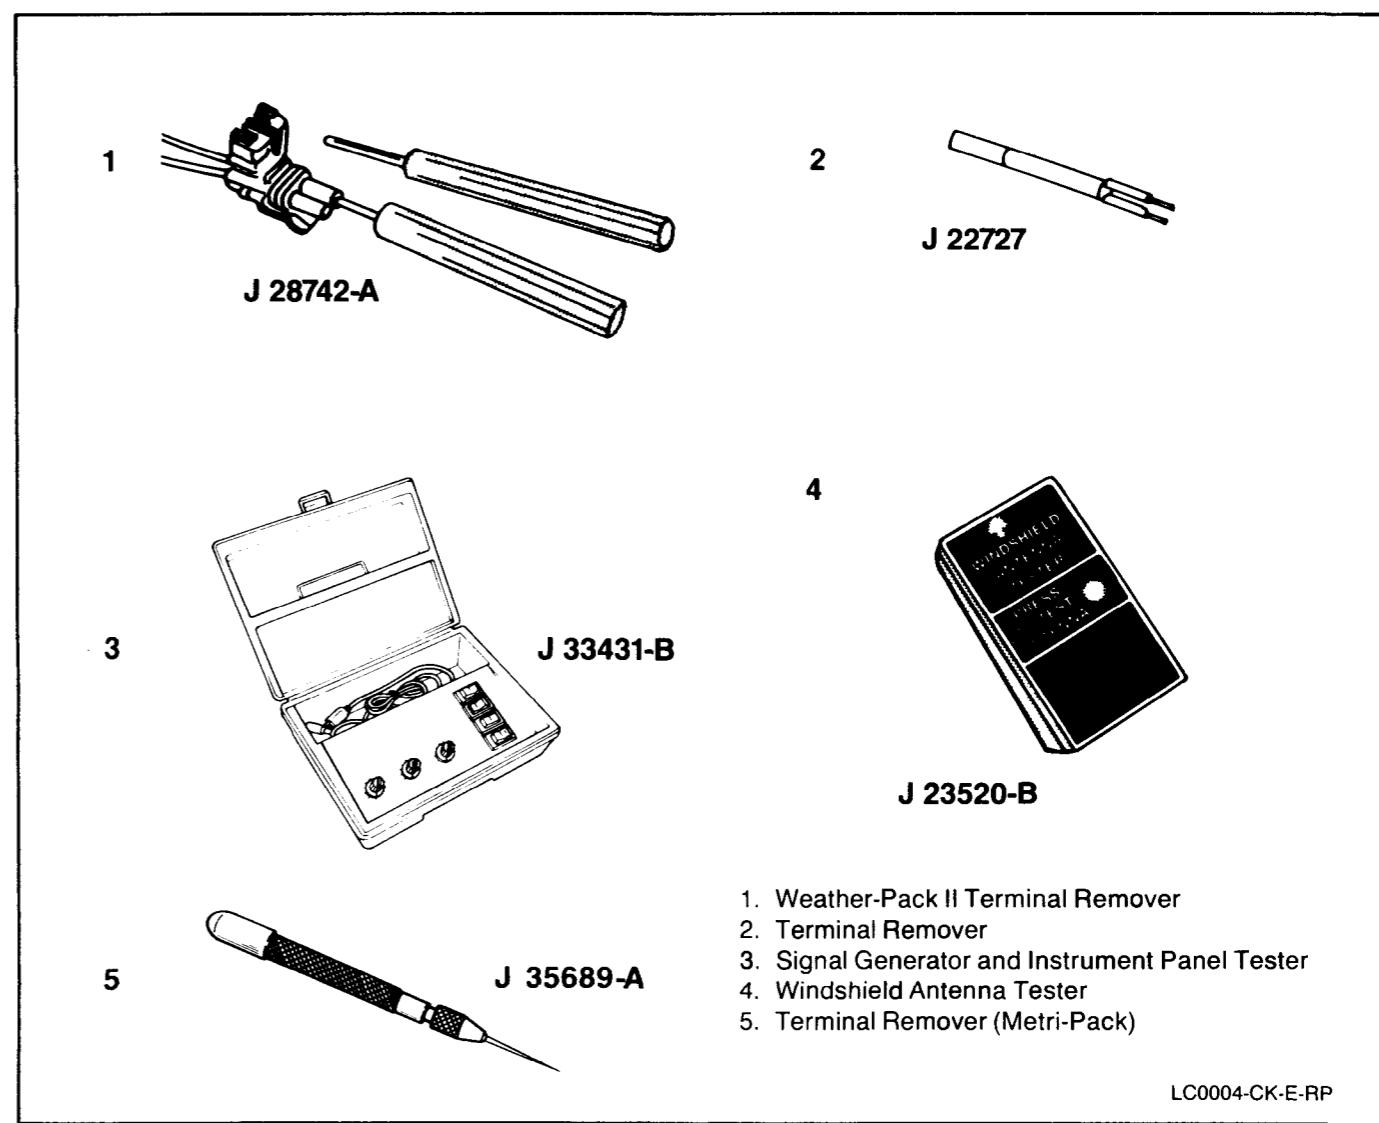

Figure 16—Weather-Pack and Metri-Pack Connectors
Special connectors known as Weather-Pack connectors (Figure 16) require a special tool J 28742-A for servicing. This special tool is required to remove the pin and sleeve terminals. If removal is attempted with an ordinary pick, there is a good chance that the terminal will be bent or deformed. Unlike standard blade-type terminals, these terminals cannot be straightened once they are bent.
The Metri-Pack connectors use a pull-to-seat type terminal, as shown in Figure 16. Special tools are required to remove the terminals. If removal is attempted with an ordinary pick, there is a good chance that the terminal will be bent or deformed. Refer to Figure 16.
↔ Remove or Disconnect (Figure 16)
↔ Install or Connect (Figure 16)
1. Primary lock (121) by lifting.
2. Connector body (137).
3. Connector seal (120) by pulling the seal back onto the wires away from the connector body (137).
4. Terminal (136) by inserting J 35689-A (139) into the connector body (137) to depress the locking tang (138), then push the wire and terminal through the connector body (Figure 16).
5. 5 mm (0.2-inch) of the wire insulation (130).